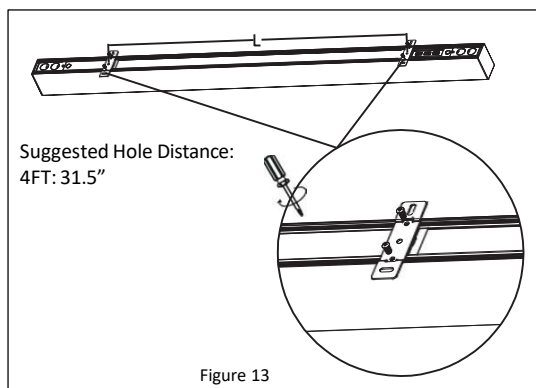

Figure 13
2. Attach the 2 surface-mount brackets to fixture back with provided short screws. **See Figure 13.**